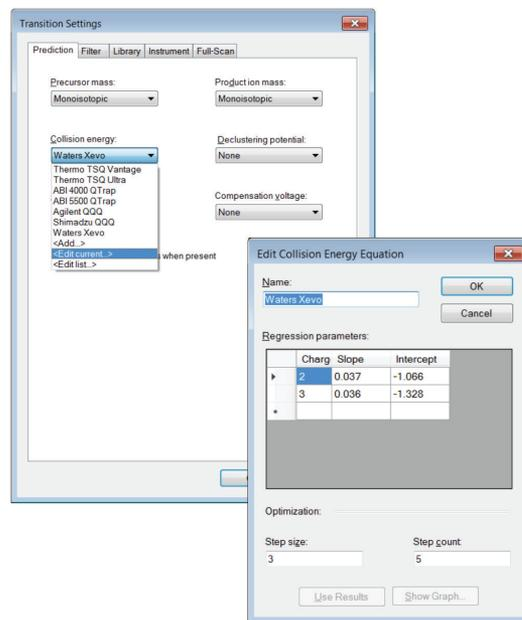
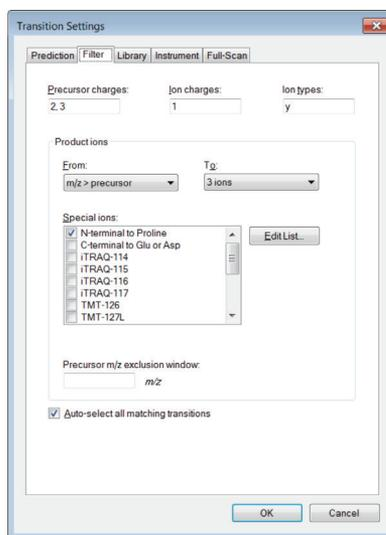

Figure 2. Instrument selection and step size/count in Skyline.
Figure 3. Settings for transition prediction in Skyline.
Step 1. Configure Skyline for Waters mass spectrometers by changing the collision energy to "Waters Xevo" in Settings > Transition Settings > Prediction tab (Figure 2). Additionally, the number of collision energy steps and intervals to investigate can be modified by clicking on "Edit current" under "Collision energy." The optimization "step size" can be set to 2 and the "step count" 5. Step count is the number of different collision energies to try above and below a predicted value, and step size is the difference between those collision energies. Under the Filter tab, change "precursor charges" to 2, 3. The "ion charges" (charges on the product ions) value could be 1 or 1,2 –useful for triply charged precursors, and the "ion types" to fit your experiment, typically y or y,b. Select the product ions for Skyline to display. We have chosen $m/z >$ precursor, 3 ions, and N-terminal to Proline as shown in Figure 3.